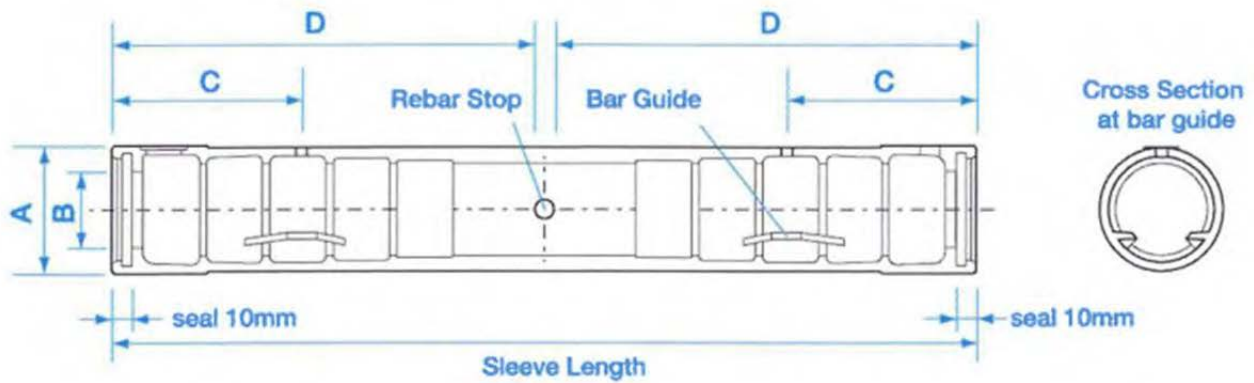

FIGURE 2—NMB SLIM-SLEEVE
The NMB Slim-Sleeve connectors are similar in shape and dimensions to the NMB Splice-Sleeve UX (SA) connectors except that the two ends of the NMB Slim-Sleeve are symmetrical and NMB Slim-Sleeve connectors are used to splice two equal-diameter, deformed reinforcing bars. The sleeves are iron castings manufactured in accordance with JIS G5502, Grade FCD700-2 [minimum yield and tensile strengths of 60,900 and 101,500 psi (420 and 700 MPa), respectively] for all sleeve sizes. The NMB Slim-Sleeve connector configuration and dimensions, and the required rebar embedment lengths, are provided in Figure 2 and Tables 3 and 4.
3.3 NMB Splice Sleeve® 9UX (SA) SD590 Connector: